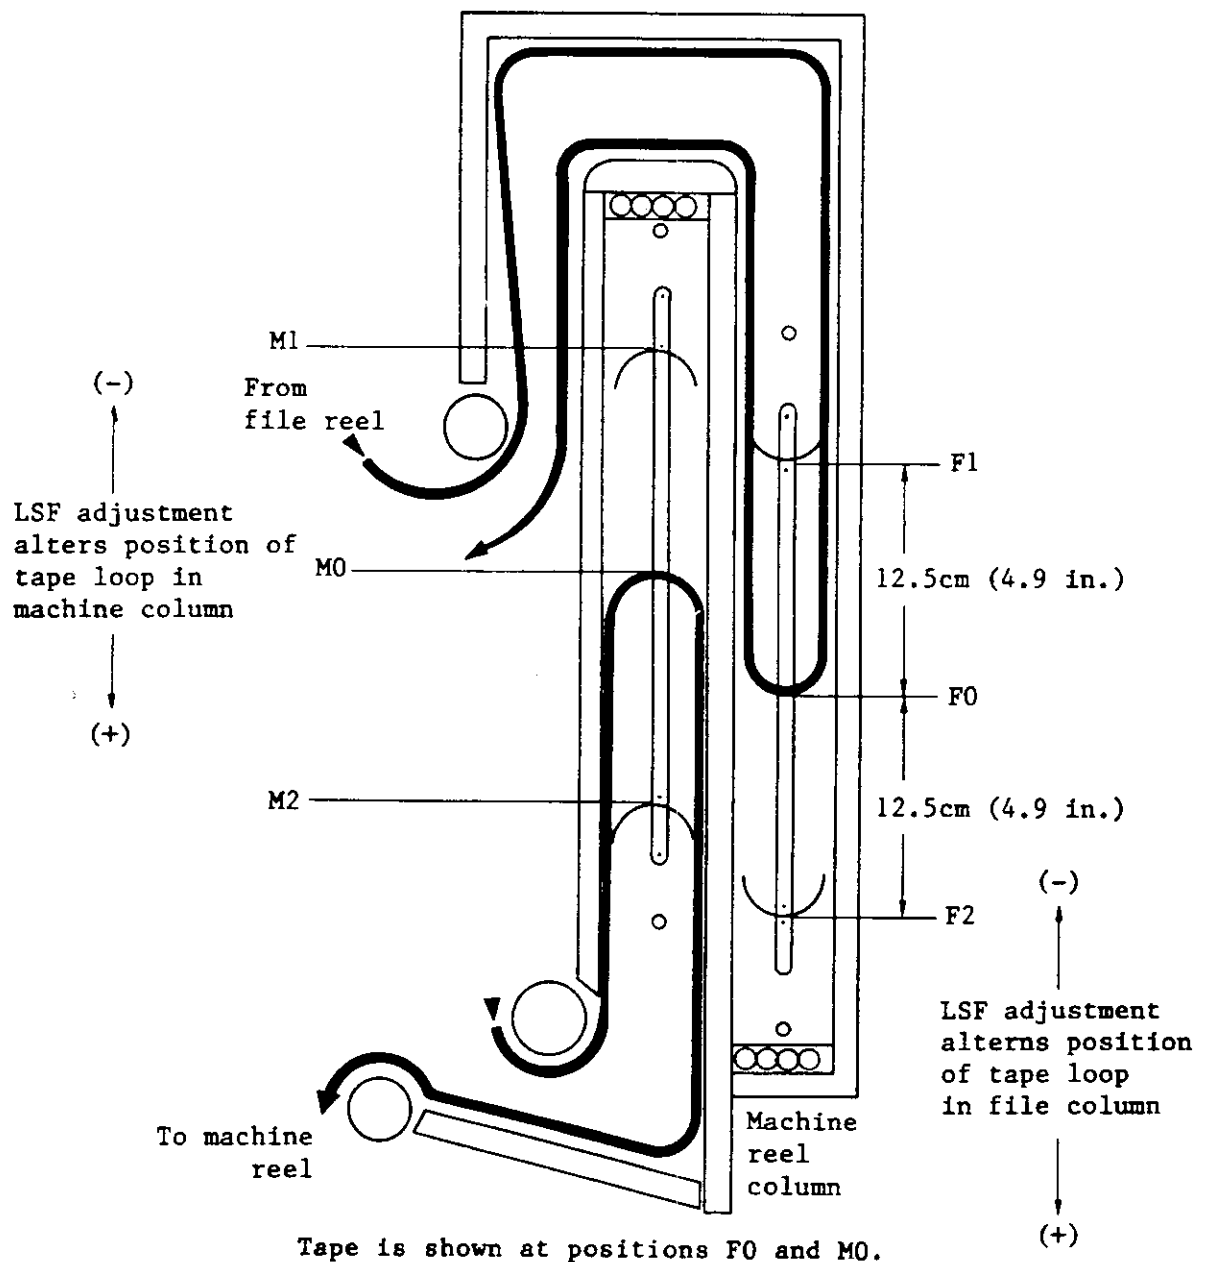
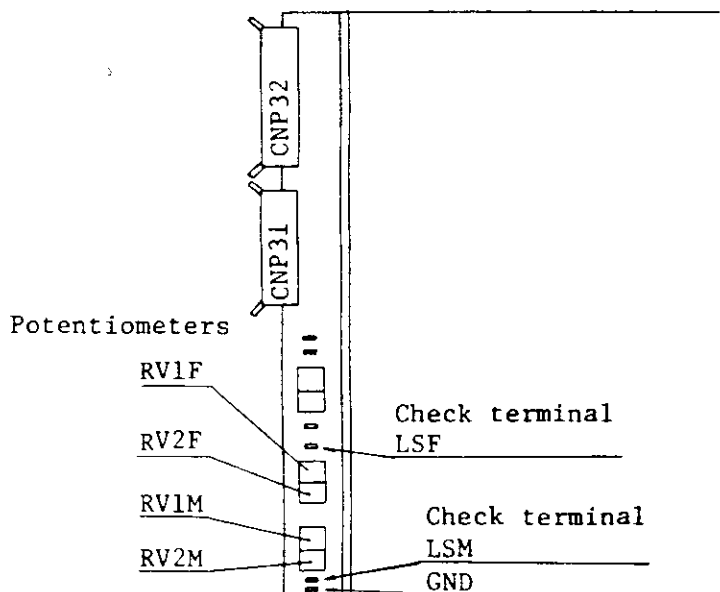

Figure K.28 Tape loop positions
Figure K.29 MTU PCA 1A04
- (1) Place tape reel on auto hub and press the LOAD/REWIND button on the MTU front panel.
- (2) As the tape loop starts to appear in the columns, press the RESET switch on the MTU front panel.
- (3) Set field tester switches S0 through S7 to \$A8 and the OFL/ONL switch to OFL. Toggle the SSS switch. This turns on the air pressure.
- (4) Manually adjust the tape inside the column to positions F0 and M0 shown in Figure K.28. Hold the file reel in place by taping the reel to the column door.
- (5) Measure the voltage between LSF (Figure K.29) and ground. Adjust potentiometer RV1F so that the voltage is  $0 \pm 0.2$  Vdc.
- (6) Measure the voltage between LSM and ground. Adjust potentiometer RV1M so that the voltage is  $0 \pm 0.2$  Vdc.
- (7) Set the field tester switches S0 through S7 to \$AA. This will cause the capstan to move and reposition the tape loop to positions M1 and F1 as shown in Figure K.28.
- (8) Measure the voltage between LSF and ground. Adjust potentiometer RV2F so that voltage is  $6.5 \pm 0.2$  Vdc.
- (9) Measure the voltage between LSM and ground. Adjust potentiometer RV2M so that the voltage is  $6.5 \pm 0.2$  Vdc.
- (10) Set the field tester switches S0 through S7 to \$AB. This will cause the capstan to move and reposition the tape loop to positions M2 and F2 as shown in Figure K.28.
- (11) Measure the voltage between LSF and ground. Adjust potentiometer RV2F so that the voltage is no lower than 6.5 Vdc and no higher than 8.5 Vdc.
- (12) Measure the voltage between LSM and ground. Adjust potentiometer RV2M so that the voltage is no lower than 6.5 Vdc and no higher than 8.5 Vdc.
- (13) Toggle the SSS switch on the field tester to terminate the test.